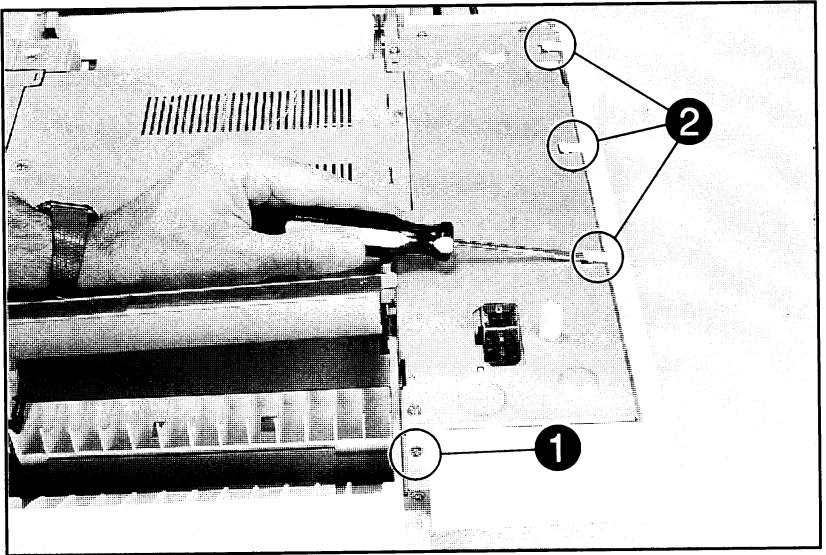

Figure A-6 Side Cover
- 2 Remove the (1) screw shown in Figure A-6, callout 1.
- 3 Release the (3) latch points with a flat screwdriver and rotate the cover downward (see Figure A-6, callout 2).